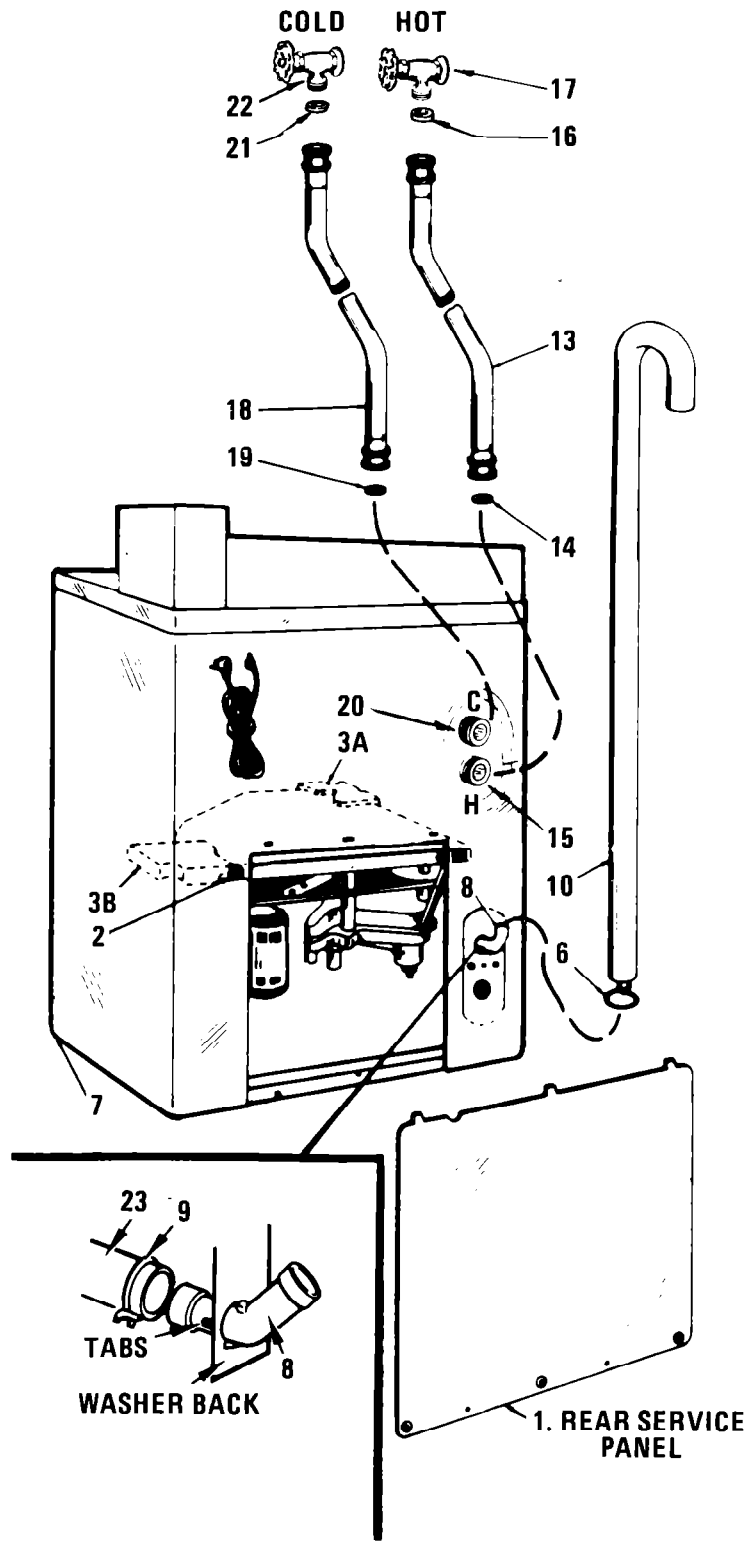
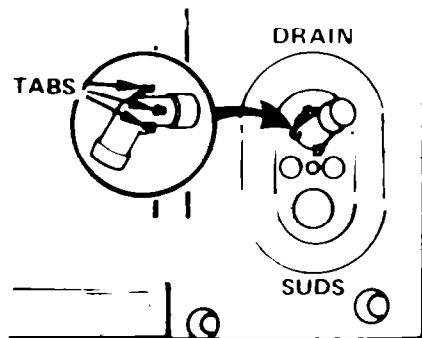

Figure 4
Figure 7
4. Shipping Accessory Removal . . . Rear of appliance (See Figure 4.)
5. Drain Hose Assembly (See Figure 4 & 7)
From the inside, place plain end (no tabs) of the angle connector (8) through the lower hole in cabinet and snap in place. Position the angle connector from outside to face the standpipe. (See Figure 7.) Next, place the smaller hose clamp (9) on the internal drain hose (23). Remove plug from inside hose, then place the hose on the angle connector. Secure with hose clamp. Place the larger hose clamp (6) on the discharge hose (10) and place on the angle connector. (See Figure 4 & 8)